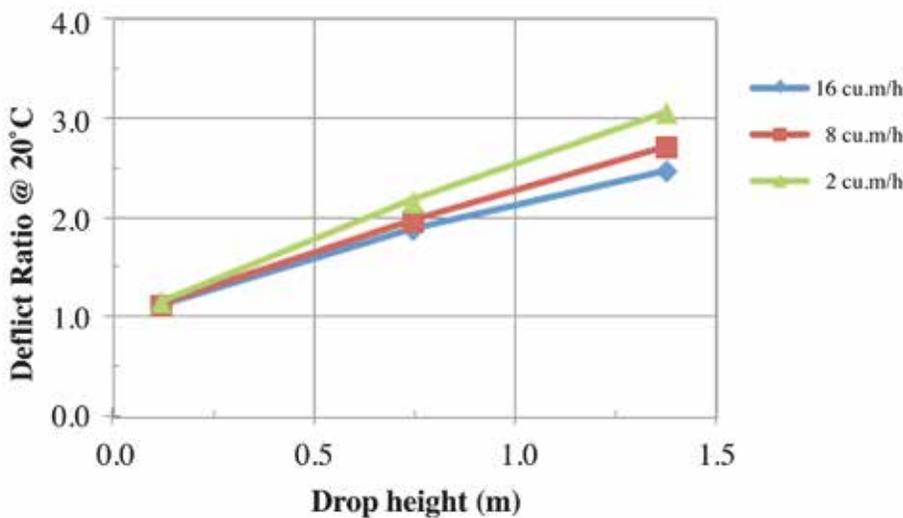

Figure 4. The graph shows the effect of drop height and oxygen absorption.
- dropping the dredged material from a high height in the hopper while loading (Figure 4) and